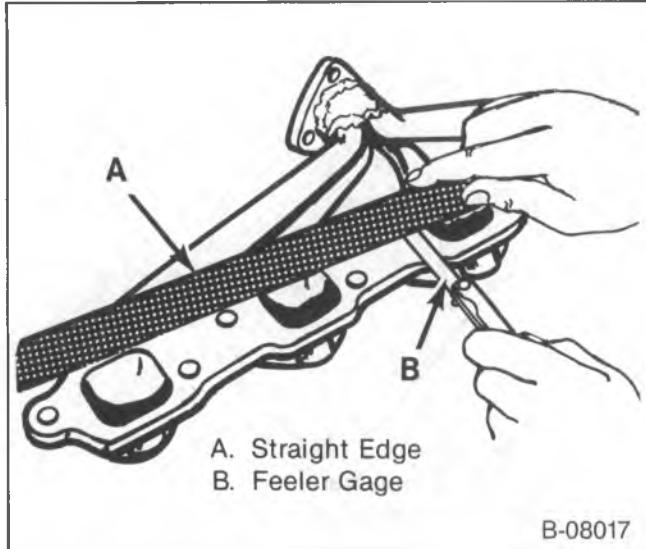

Figure 28—Checking Alignment of Manifold Flanges (Typical)
Inspect (Figure 28)
- Alignment of exhaust manifold flanges. Use a straight edge and feeler gage (figure 28). If the flanges do not align, the manifold is warped and should be replaced.